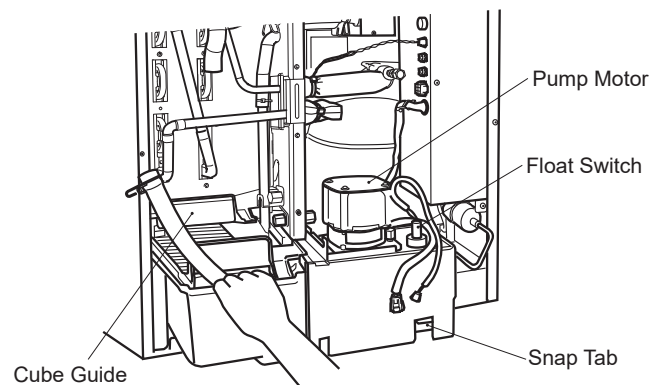

Fig. 4
- 5) Pull out the water tank, cube guide, pump motor bracket, pump motor and float switch together. See Fig. 4.